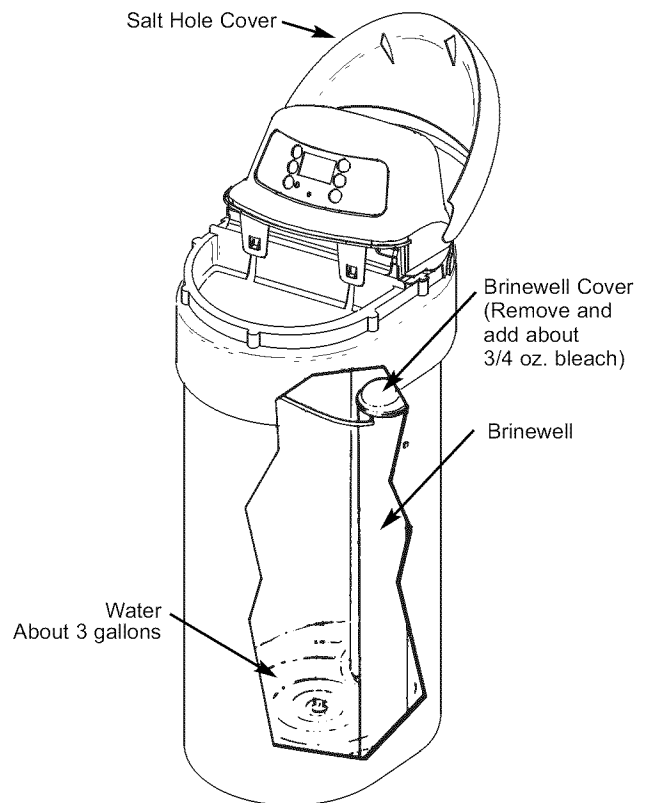

FIG. 28
3. Remove the brine well cover (Fig. 28) and pour about 3/4 ounce, or 1 to 2 tablespoons, of common 5.25%¹, *unscented*, household bleach (Clorox, Linco, BoPeep, White Sail, Eagle, etc.) in the softener brinewell. Replace the brinewell cover.